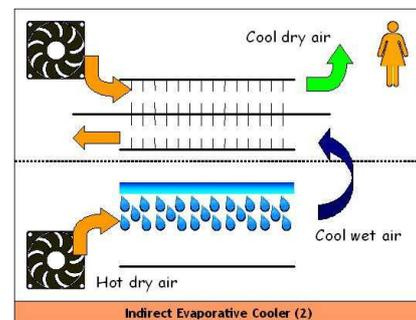
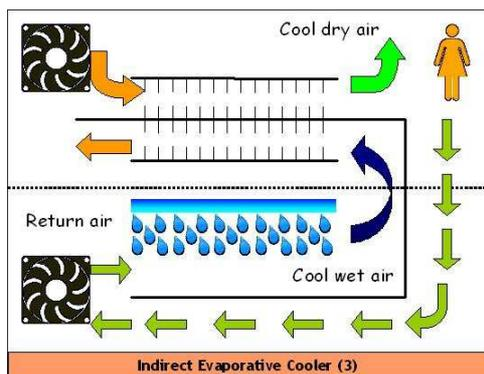

Figure 3. Indirect evaporative cooler (2).
Figure 4. Indirect evaporative cooler (3).
A setup that doesn’t “waste” so much of the moisturized air is shown in Figure 3 where a heat exchanger is placed after the humidifier section. The amount of “cold” produced that is useable, now depends on the efficiency of the heat exchanger. The heat exchanger can be the same as in traditional, mass produced, Heat Recovery Units. The disadvantage is obvious: a second fan is needed to create the airflow in the “dry” channel. The lowest temperature that can be obtained with this setup is close to the wet bulb temperature – but never completely, since there will remain a temperature difference across the heat exchanger.
It is possible to reduce costs for the indirect evaporative cooler with separate heat exchanger - the setup (2) according to Figure 3 - by not using ambient air as input to the humidifier, but to use the return air instead. This air is pre-cooled, and thus needs less additional cooling to reach it’s wet bulb temperature. The humidifier section therefore can be smaller, saving costs. Refer to setup (3), Figure 4.